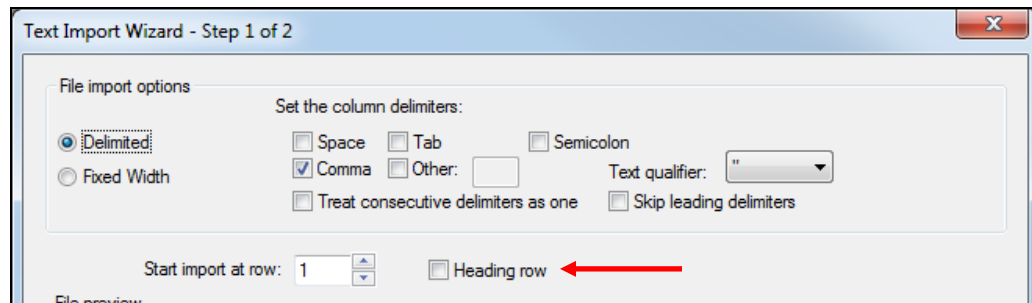

Figure 3 The top of the Text Import Wizard dialog
5. Select “recharge.csv” and click **Open** to exit the *Open* dialog and bring up *Step 1 of 2* of the *Text Import Wizard* dialog (top shown in Figure 3).
This wizard is used to import text data into a GMS project. Note that if the text file being imported has a heading row, the *Heading row* box must be checked for the data to be properly imported (red arrow in Figure 3). In this example, there is not a heading row so the box should not be checked here.